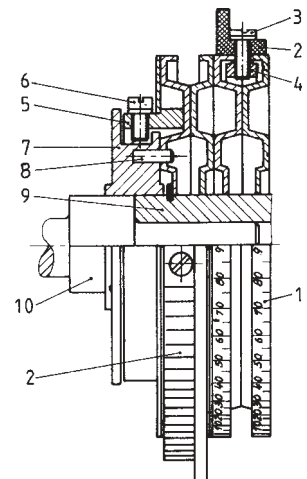

Fig. 1.6.2: Cam Shaft with Clutch LNSE
To actuate the individual switching elements the cam shaft is fitted with cam disk sets in a pitch of 30 mm. Each cam disk set consists of the components listed in figure 1.6.2.
If the screws for turning the cam rings are not accessible, the cam shaft and the driving spindle must be uncoupled (see figure 1.6.2). Therefore the lock ring (item 5) on the driving spindle must be rotated until the lock screws (item 6) are accessible and can be unscrewed. Then the clutch (item 7) is pulled out in the direction towards the bearing plate. The connection between the driving spindle (item 10) and the cam shaft (item 9) is now undone and the cam shaft can be turned into any required position. After adjusting all cam disk sets successfully, the two spindles are reconnected. Because of a lock pin (item 8) it is impossible to connect the clutch wrongly.